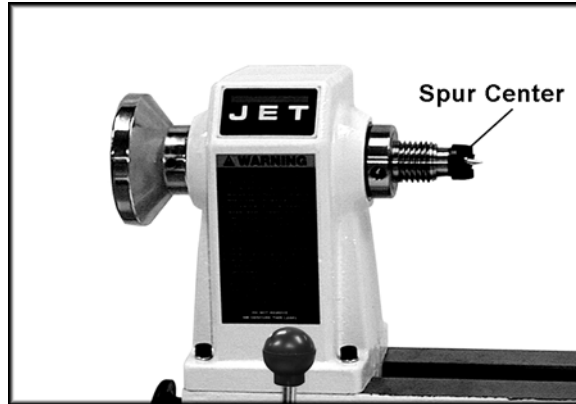

Figure 4
**Spur Center** (Figure 4) - locks into headstock and holds the workpiece during spindle turning.